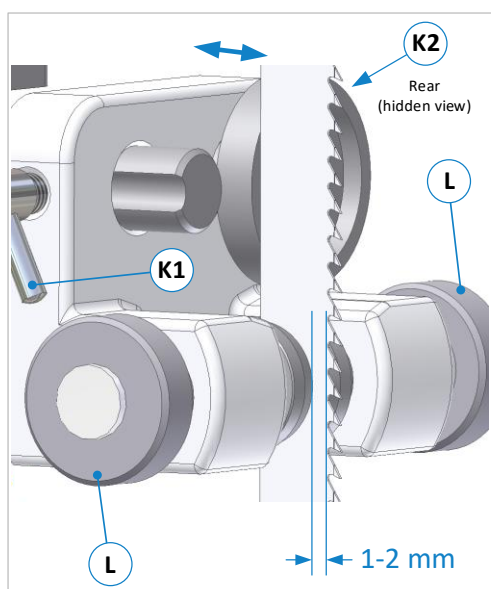

Figure 38: Adjusting the guides
- Loosen the tommy screw (**K1**) and adjust the complete guide on the support bolt (**B**) by moving it so that the front edges of the side rollers are approx. 1 - 2 mm behind the tooth base of the saw blade (see ⇒ Figure 38).